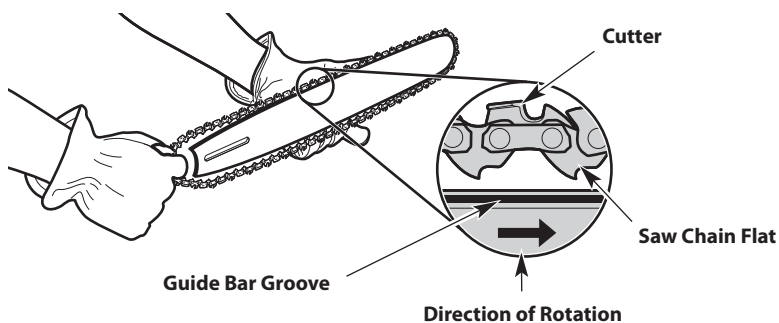
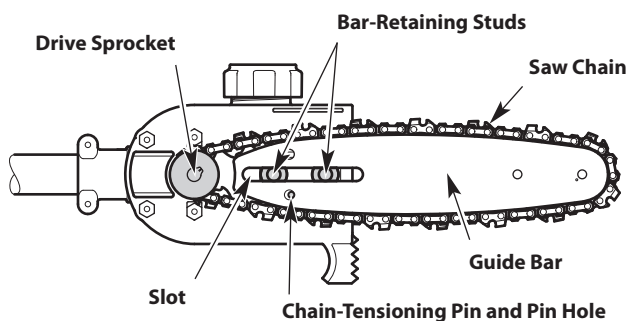

Fig. 12
Fig. 13
3. Fit the saw chain into the guide bar groove (Fig. 12). Make sure the cutters point in the correct direction of rotation (Fig. 12). Keep a loop of saw chain at the back end of the guide bar (Fig. 12).
4. Hold the saw chain and guide bar together in position over the unit. Loop the saw chain around the drive sprocket and install the guide bar onto the bar-retaining studs (Fig. 13). Make sure the guide bar is flush against the mounting surface. Make sure the flats on the saw chain are in the grooves on the drive sprocket (Fig. 12 & Fig. 13). Make sure the chain-tensioning pin is in the pin hole on the guide bar (Fig. 13).
6. Install the bar cover. Tighten the screw and two (2) bar-retaining nuts.